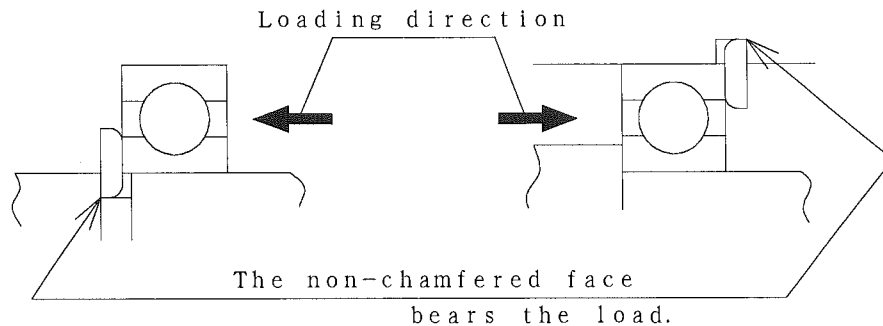

Fig. 11
- 2) Assembling direction for Retaining rings (See Figure 11)